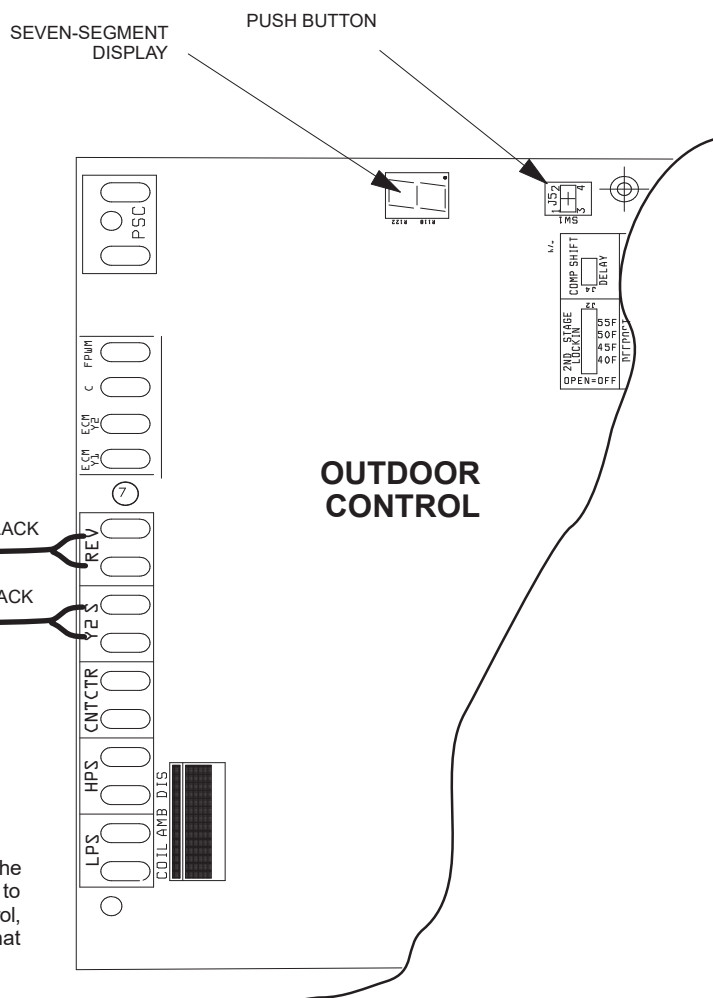

FIGURE 2. Configuring Unit – Single Stage
- 9 - Turn the main power on to the indoor unit and outdoor unit. Control should auto program the settings and the outdoor unit model number and serial number will be transferred into the new control. On systems installed with the iComfort Wi-Fi thermostat, the thermostat will display "Compatible Device Found". Select "Yes" to copy the model and serial number into the new control. If it does not, turn off power to system and remove i+ and i- communicating wires, leaving R and C wires connected. Turn power back on and use push button on control to program control using procedure outlined in figures 2, 3 and 4.